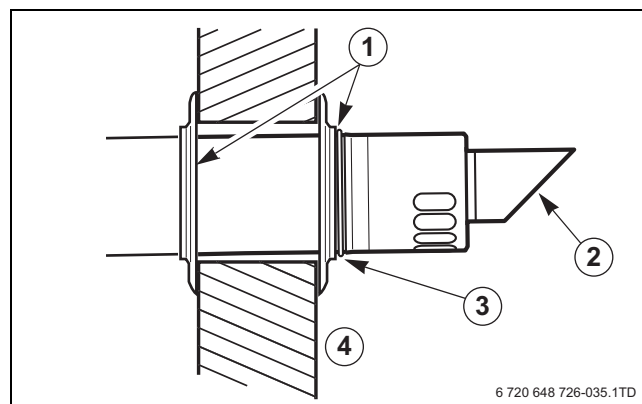

Fig. 35 Flue terminal position
- Mark off the lengths shown onto the pipe and cut to length. The cuts must be square and free from burrs. Terminal assembly outer (air) pipe - L-70 mm, inner (flue) pipe - L-50 mm. The measurement is made from the ridge at the terminal indicating the outer face of the wall. Refer to figure 35.
- Assemble flue system completely. Push the flue fully together. The slope of the terminal outlet must face downwards (see fig. 35, item 1).